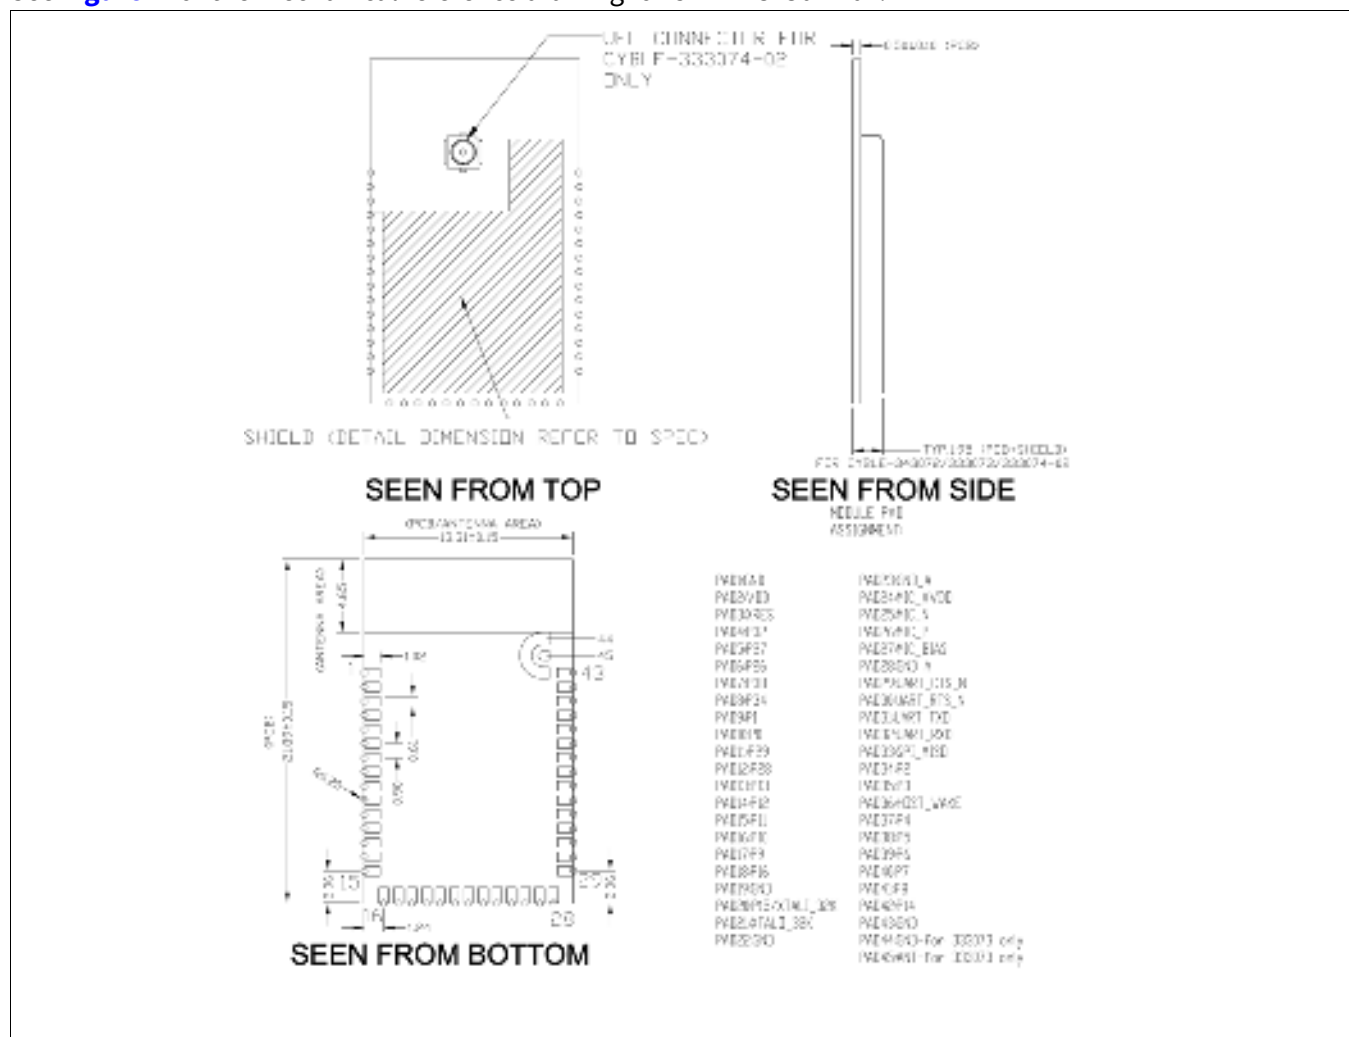
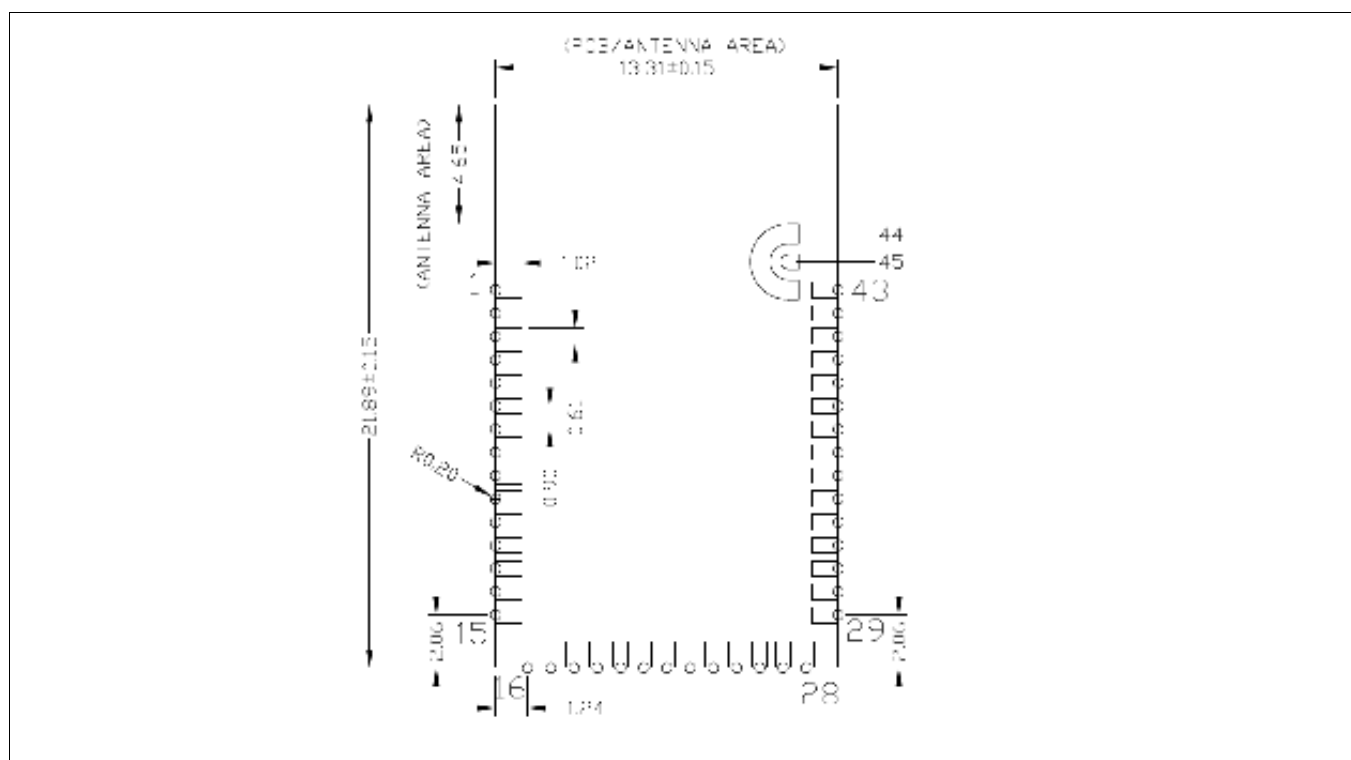

Figure 2 **Module mechanical drawing**
Figure 3 Solder pad dimensions (seen from bottom)
Infineon reserves the right to select components from various vendors to achieve the Bluetooth® module functionality. Such selections will still guarantee that all mechanical specifications and module certifications are maintained. Designs should be held within the physical dimensions shown in the mechanical drawings in **Figure 2 on page 7**. All dimensions are in millimeters (mm).
See **Figure 2** for the mechanical reference drawing for CYBLE-3x307x-02.
As shown in the bottom view of **Figure 2 on page 7**, the CYBLE-3x307x-02 connects to the host board via solder pads on the backside of the module. **Table 2** and **Figure 3** detail the solder pad length, width, and pitch dimensions of the CYBLE-3x307x-02 module.
1. **Antenna Area Keepout:** The host board directly below the antenna area of the module (see Figure 2 on page 7) must not contain ground or signal traces. This keepout area requirement applies to all layers of the host board.
2. **Module Placement:** The ideal placement of the Bluetooth® module is in a corner of the host board with the PCB trace antenna located at the far corner. This placement minimizes the additional recommended keepout area stated in item 2. Refer to AN96841 for module placement best practices.